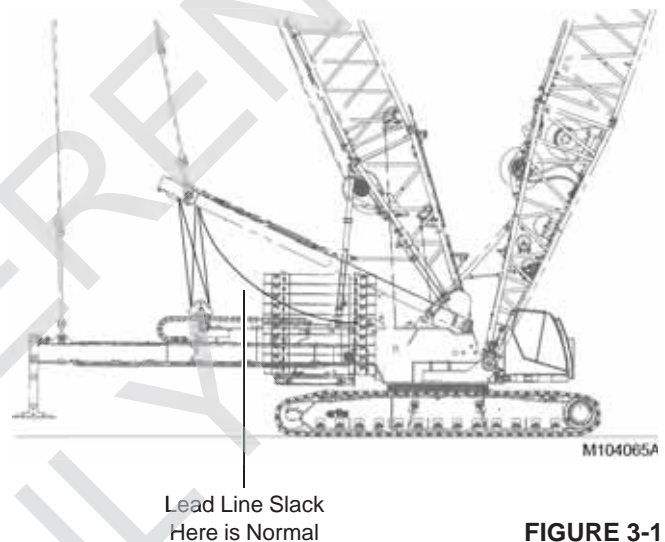

FIGURE 3-1
- During operation, it is normal for the lead line of the live mast wire rope reeving to become slack (Figure 3-1) when the counterweight tray is at the minimum working position. This most commonly occurs when operating at high boom angles with light loads.